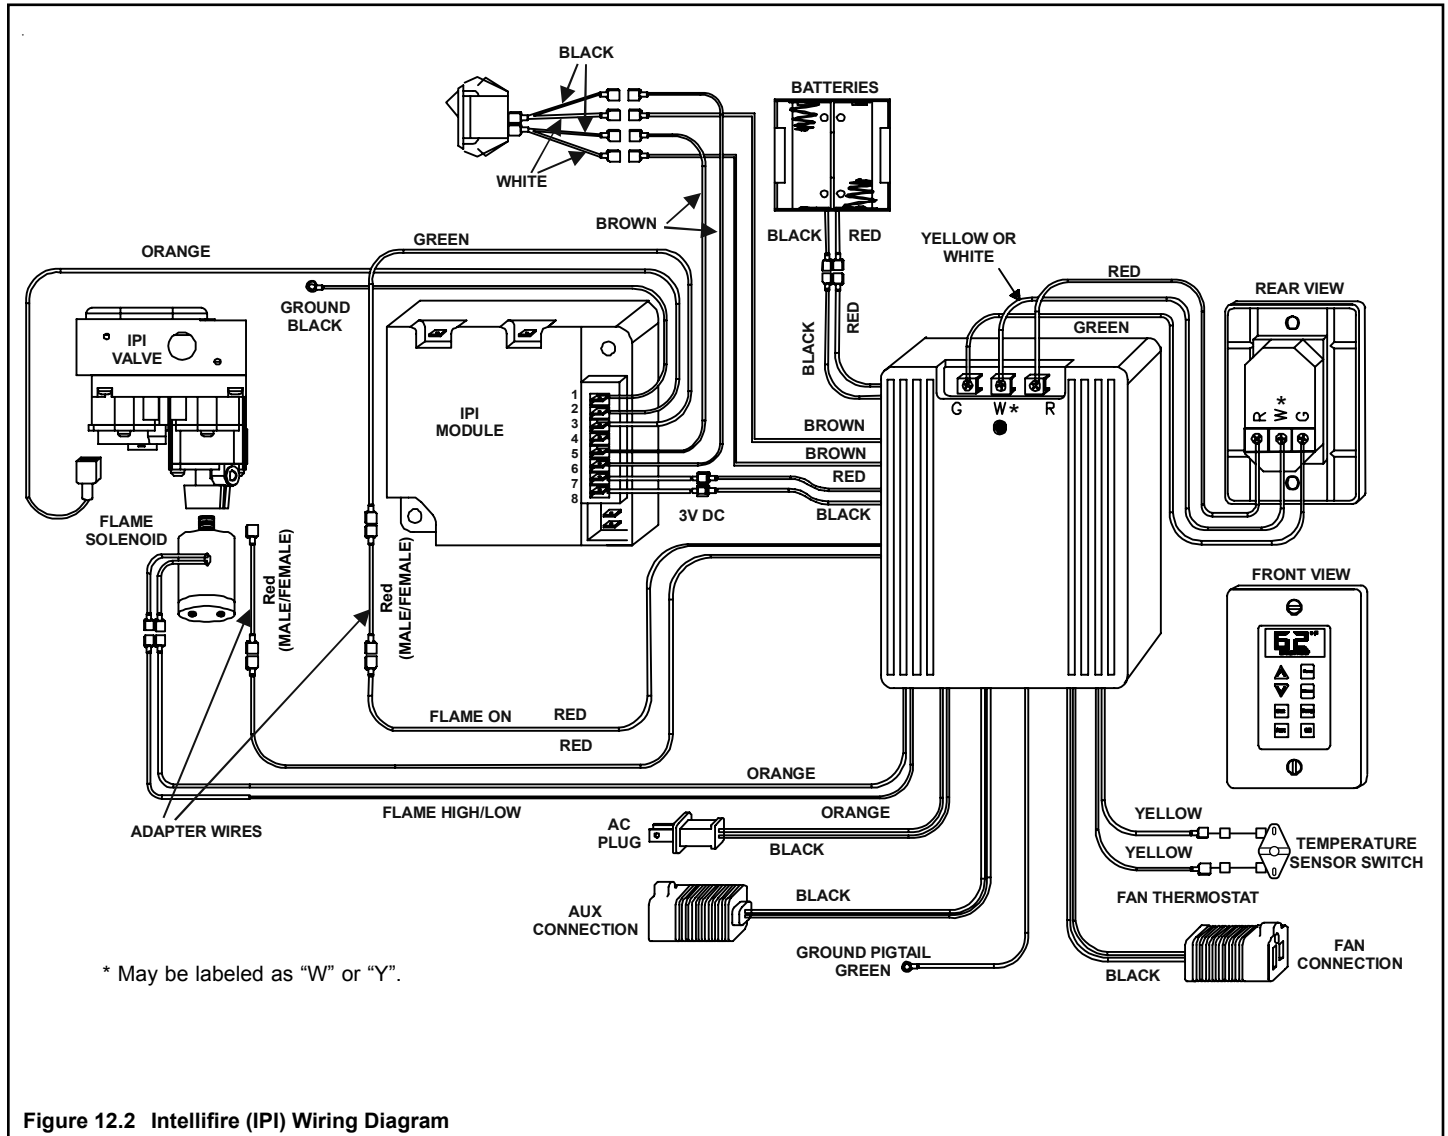

Figure 12.2 Intellifire (IPI) Wiring Diagram
- Refer to Figure 12.2, Intellifire Pilot Ignition (IPI) Wiring Diagram.
- Connect the wires to the terminals as shown in Figure 12.2. Do not over-tighten.
- See Figure 12.2 for wiring diagram.